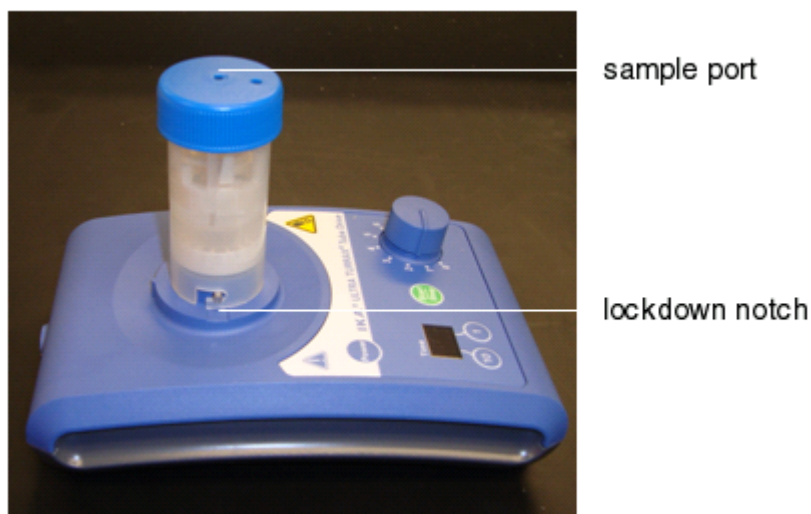

Figure 9 SOLiD™ ePCR Tube on the ULTRA-TURRAX® Tube Drive from IKA®.
1. Place the SOLiD™ ePCR Tube containing 9 mL of oil phase onto the ULTRA-TURRAX® device, then twist the tube to lock it into position (see Figure 9).